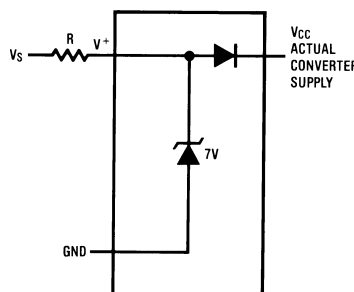

Figure 24. An On-Chip Shunt Regulator Diode
A unique feature of the ADC0838-N and ADC0834-N is the inclusion of a zener diode connected from the V^+ terminal to ground which also connects to the V_{CC} terminal (which is the actual converter supply) through a silicon diode, as shown in Figure 24⁽¹⁾.
- (1) Internal zener diodes (6.3 to 8.5V) are connected from V^+ to GND and V_{CC} to GND. The zener at V^+ can operate as a shunt regulator and is connected to V_{CC} via a conventional diode. Since the zener voltage equals the A/D's breakdown voltage, the diode insures that V_{CC} will be below breakdown when the device is powered from V^+ . Functionality is therefore guaranteed for V^+ operation even though the resultant voltage at V_{CC} may exceed the specified Absolute Max of 6.5V. It is recommended that a resistor be used to limit the max current into V^+ . (See Figure 24 in Functional Description)